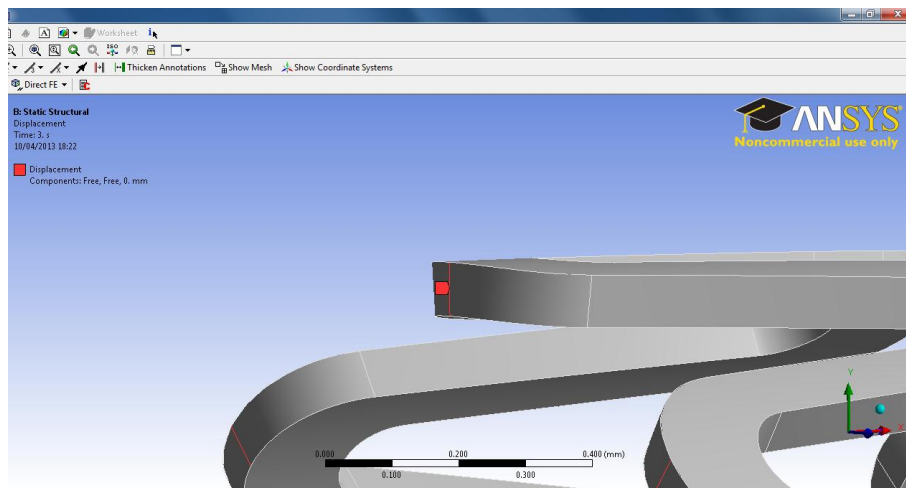
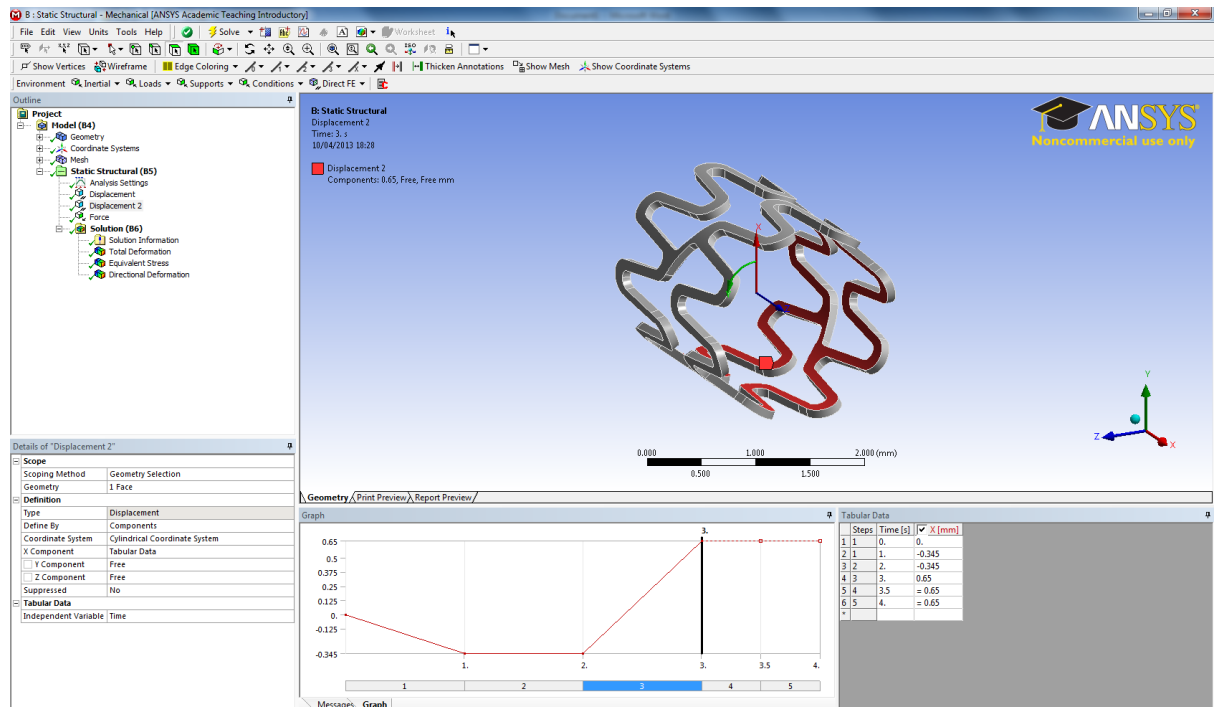

Figure 2
Figure 3
- 2) I've selected the vertex lines (shown in red), around all 8 vertices of one end of the stent and given them a displacement of zero in the axial directions (by defining a cylindrical coordinate system). This ensures that these vertices can move only in the Y-Z plane, and since I'm using a cylindrical coordinate system, I believe this ensures that the axis of the stent is now fixed (free to rotate, and to grow radially). See Figure 2. Figure 3 shows the cylindrical coordinate system.
- 3) The diameter (inner) of the original stent is 1.69mm. By defining a multi-step analysis, and using displacements (with the cylindrical coord system), I first crimp the stent to 1mm (Inner Dia; by -0.345mm displacement radially, in step 1), then rest the stent in step 2, and expand to 3mm in step 3. All shown in Figure 3.